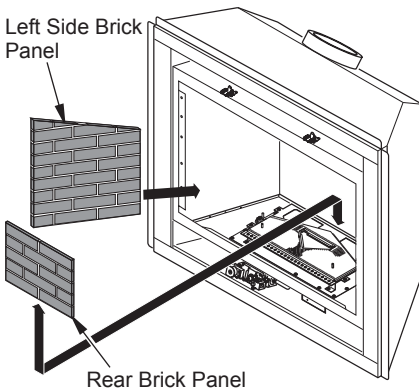

Figure 39 - Installing Rear Brick Panel
- Install rear brick panel first. Rest bottom edge of panel on back edge of burner assembly (see Figure 39).
- Install left side brick panel by sliding it between the burner assembly and the side of the firebox (see Figure 39).